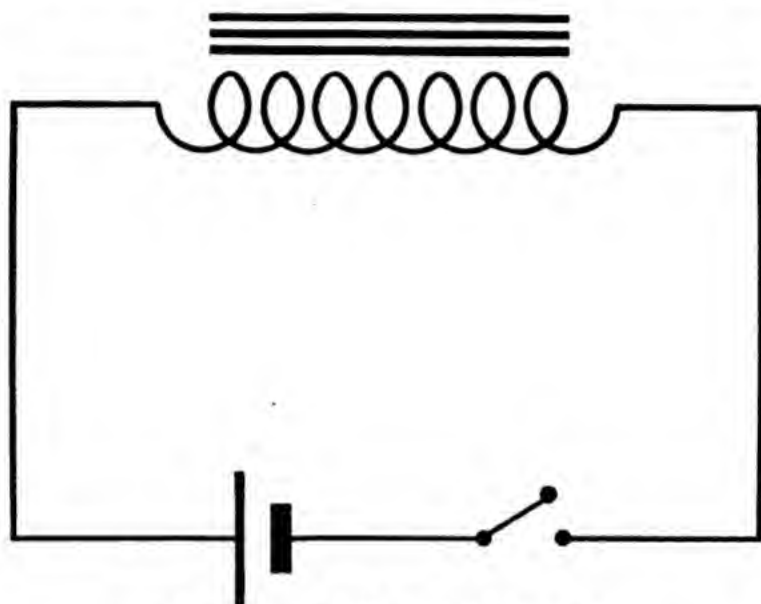
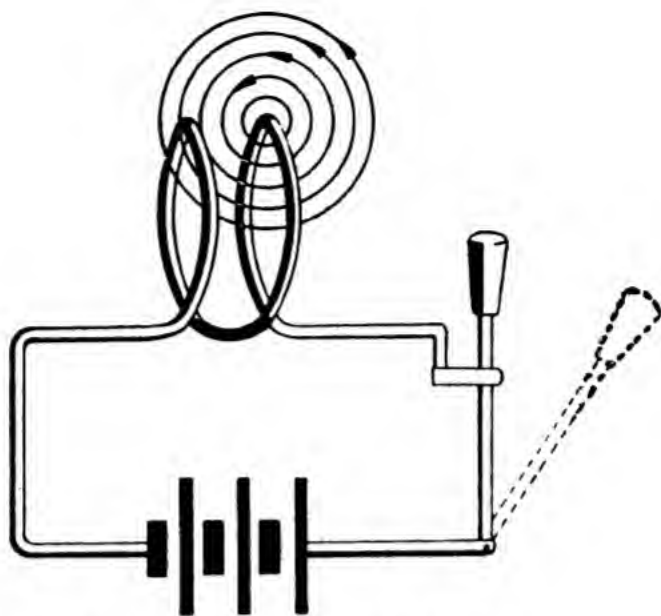

Figure 115.—Self induction circuits.
Figure 116.—Self induction in one turn.
There are only three items required to generate an induced voltage—(1) a conductor, (2) a magnetic field, (3) motion between the conductor and the field. These three items give you **LINES OF FORCE CUT BY A CONDUCTOR**. Look at figure 115—are these three items present in this circuit?
Figure 116 shows an enlargement of only two turns of the coil in figure 115. Flux is pictured blossoming out, from one of the turns. Notice how these lines are cut by the next turn. Now, applying the generator hand rule, determine the direction of the induced voltage. It's easier to use the rule on a cross-section of the coil like figure 117. Flux direction is down (first finger). Motion is to the RIGHT (thumb). (ATTENTION—the flux is moving across the conductor to the LEFT—the effect is AS THOUGH THE CONDUCTOR were moving